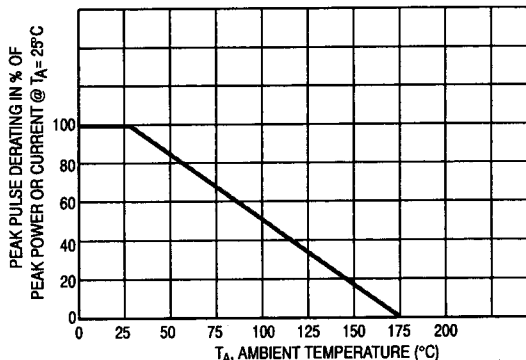

Figure 2. Pulse Derating Curve
7. Surge current waveform per Figure 4 and derate per Figure 2 of the General Data – 1500 W at the beginning of this group